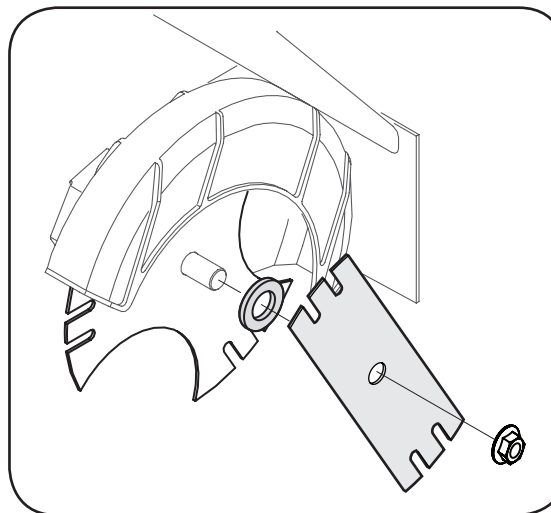

Figure 5-3
1. Use two wrenches (one wrench to prevent hex bolt head from spinning and the other to unthread the flange nut) to remove flange nut that secures edger blade, leaving the edger blade in place. See Fig. 5-3.